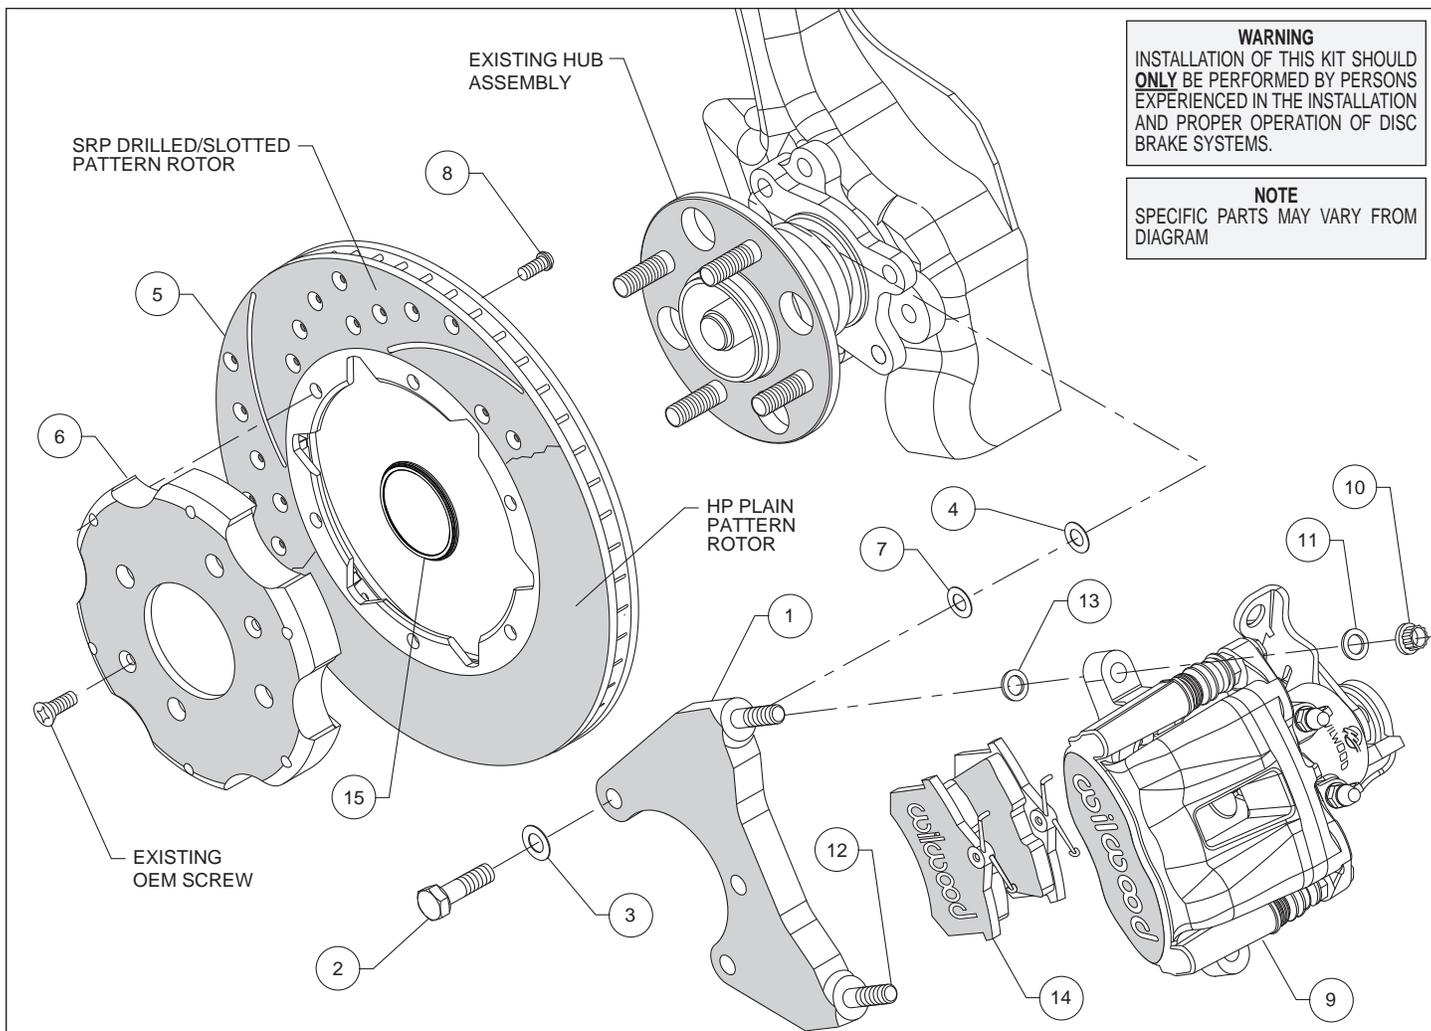

Figure 1. Typical Installation Configuration
- The caliper mounting bracket (1) should initially be installed with clean, dry threads on the mounting bolts. Orient the bracket as shown in Figure 1, and install using bolts (2) and washers (3). Initially place two .030" thick shims (7) between the bracket and upright, Figure 1 and Photo 1. Temporarily tighten the mounting bolts. **NOTE: The bracket must fit squarely against the mount bosses on the upright.** Inspect for interference from casting irregularities, machining ridges, burrs, etc. Later, after the caliper alignment has been checked, the mount bolts will be secured using red *Loctite*® 271.
- Orient the rotor (5) and hat (6) as shown in Figure 1 and Photo 2. Attach the rotor to the hat using bolts (8). Using an alternating sequence, apply red *Loctite*® 271 to the threads, and torque to 25 ft-lbs.
- Slide the rotor registration adapter (15) onto the axle register on the axle hub with the smaller O.D. facing outward, Photo 3.
- Install the brake pads (14) into the caliper (9) from the bottom, with the friction material facing the rotor, until the "v" spring clip snaps into place against the anvil, as shown in Figure 1 and Photo 4. They should install easily without interference.
- Lubricate the caliper mounting studs (12) with lightweight oil. Initially place two .035" thick shims (13) on each stud as shown in Figure 1. Mount the caliper (9) onto the bracket (1) using lock nuts (10) and washers (11), Figure 1 and Photo 5. Temporarily tighten the lock nuts and view the rotor from the end of the caliper. The rotor should be centered in the caliper, Photo 6. If not, adjust by adding or subtracting shims (4 and/or 7) between the bracket and the upright. Always use the same amount of shims on each of the two mounting bolts. Once the caliper alignment is correct, remove the bracket mounting bolts (2) one at a time, apply red *Loctite*® 271 to the threads, and torque to 40 ft-lb.